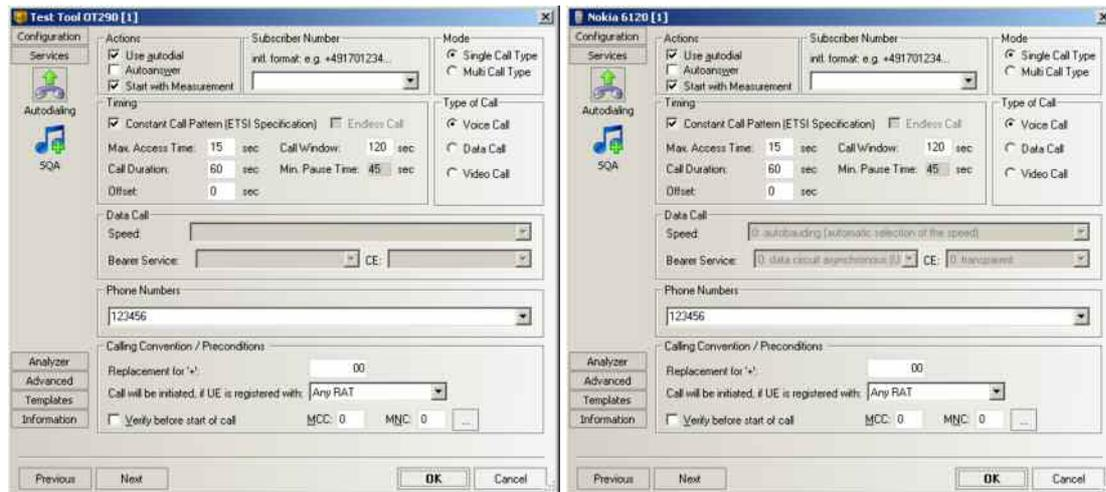

Fig. 6-24 Driver Configuration – Autodialing tab (all drivers, single call type)
- A single call is set up according to the settings in the remaining panels of the *Autodialing* tab (see Fig. 6-24 on p. 6.65). The call is periodically repeated if *Use autodial* is selected.